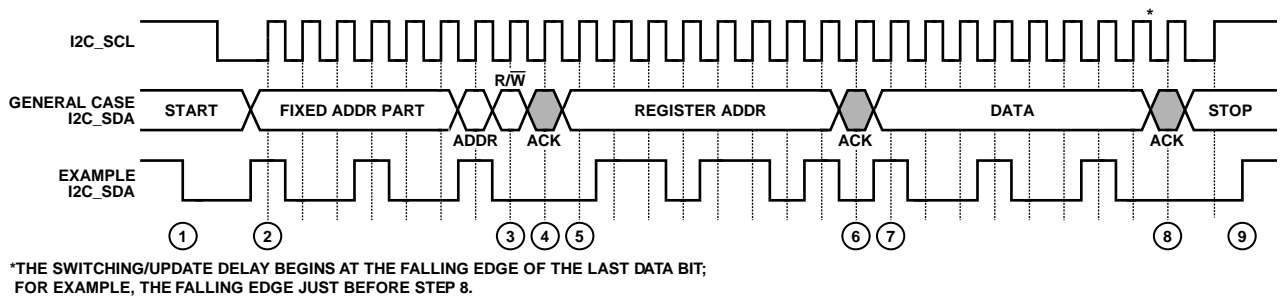

Figure 28. I²C Write Procedure
To write data to the ADV3002 register set, an I²C master (such as a microcontroller) needs to send the appropriate control signals to the ADV3002 slave device. The signals are controlled by the I²C master unless otherwise specified. For a diagram of the procedure, see Figure 28. The steps for a write procedure are as follows:
3. Send the write indicator bit (0).
- a. Send a stop condition (while holding the I2C_SCL line high, pull the I2C_SDA line high) and release control of the bus to end the transaction (shown in Figure 28).